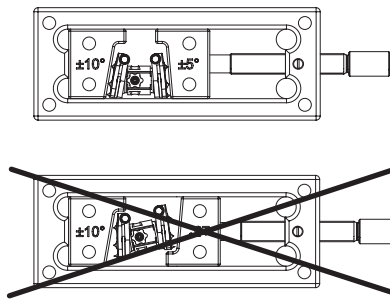

Fig. 3
- ▶ Only apply angle combinations plus°/plus°, minus°/minus°, plus°/0°, minus°/0° of the angle blocks (see Fig 3).